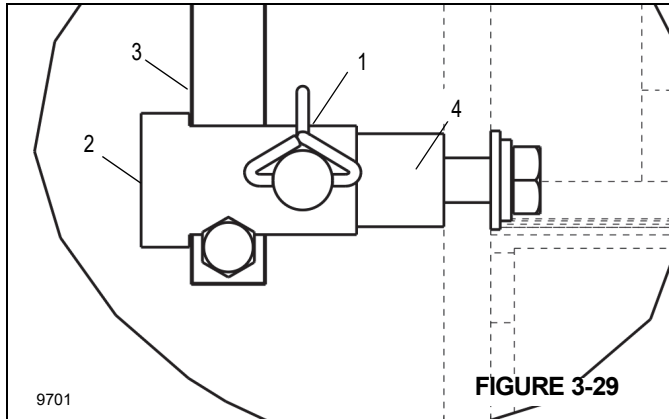

FIGURE 3-29
2. Remove the safety pin clip (1, Figure 3-29). Remove the pin.
3. Remove the bushing (2) from the anemometer mast (3) and rod keeper (4).
4. Remove the anemometer mast (3) from the rod keeper (4).
5. Re-Install the bushing (2) and safety pin (1) on the rod keeper (4).
2. Install the anemometer mast (3, Figure 3-29) on the rod keeper (4).
3. Install the bushing (2) over the mast (3) and rod keeper (4). Align the bushing and keeper holes so the safety pin can be installed.
4. Install the safety clip (1) in the bushing (2) and keeper holes (4). Secure the pin (1) with the safety clip.